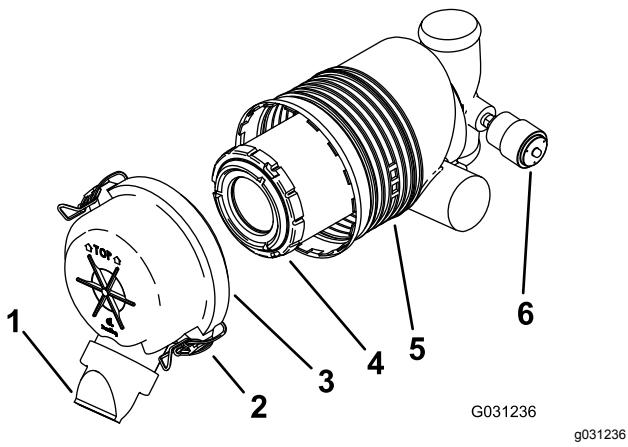

Figure 30
Important: Replace the air-cleaner filter only when the service indicator shows red (Figure 30). Changing the air filter before it is necessary only increases the chance of dirt entering the engine when you remove the filter.
5. Release the latches on the air cleaner and pull the air-cleaner cover off the air-cleaner body (Figure 30).
- If the service indicator is clear, install the air-cleaner cover with the dust cap oriented downward and secure the latches (Figure 30).
1. Gently slide the filter out of the air-cleaner body (Figure 30).
3. Carefully install the filter (Figure 30).
4. Install the air-cleaner cover with the dust cap oriented downward and secure the latches (Figure 30).